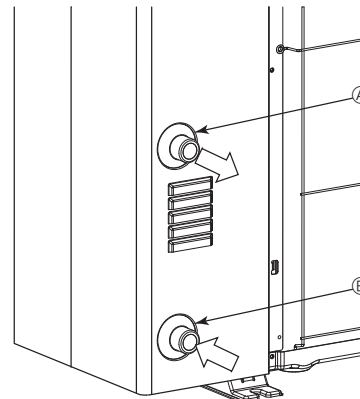

Fig. 5-1
### 5.1. Water piping connection (Fig. 5-1)
- Inlet and outlet pipes position is shown on the Fig. 5-1.
[Fig. 5-1]